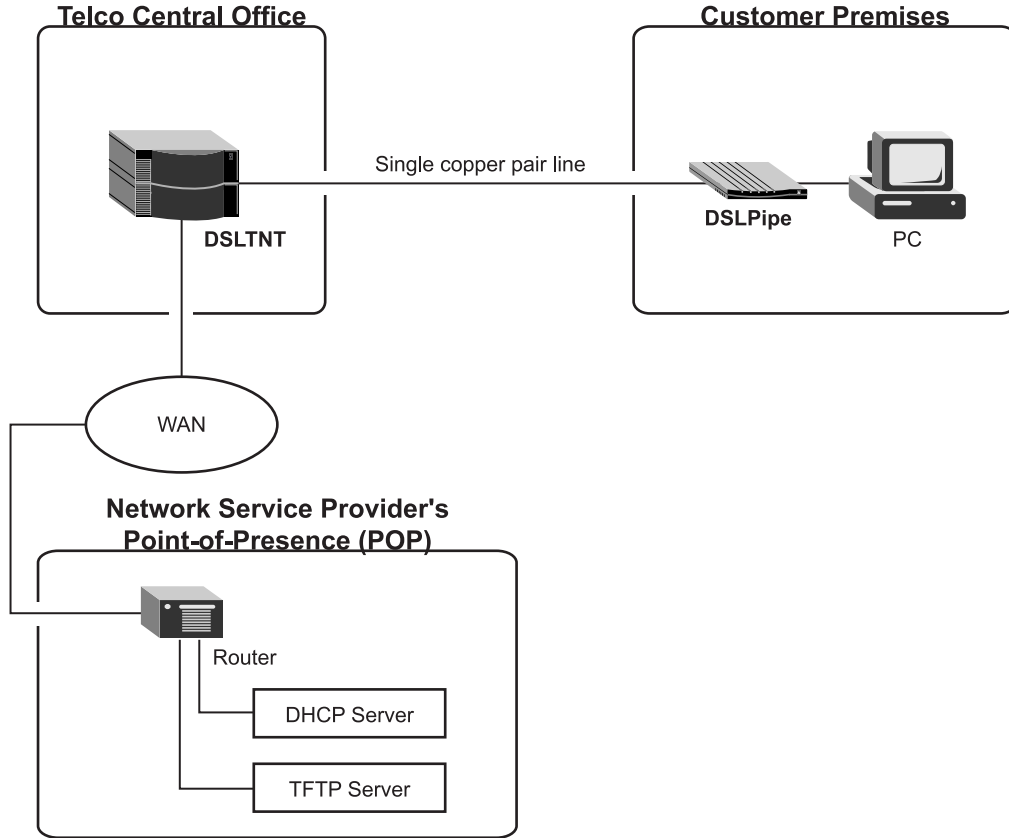

Figure 1 – System Components for “Plug & Play”
Figure 1 illustrates the relevant network system components involved in a typical service provider-to-customer link in which the Ascend "plug & play" capability is utilized. Two protocols that are a part of the TCP/IP stack are of particular importance in the procedure that allows the DSLPipe to acquire its configuration from the network service provider (NSP); they are Dynamic Host Configuration Protocol (DHCP) and Trivial File Transfer Protocol (TFTP). The factory-default configuration of the DSLPipe (table 2) supports a Frame Relay bridge connection, and hence the MAX TNT™ WAN access concentrator (the other side of the bridge) must be configured similarly.
In figure 1, generic terminology is used to identify the physical locations of equipment – namely, the Telco and NSP facilities. In reality, deregulation has brought about several new categories of provider and new roles for the traditional ones. The local exchange carriers (LECs) that once dealt only with line provisioning are now actively promoting their own Internet services, in competition with the original Internet service providers (ISPs). The incumbent LECs in turn are facing increasing competition from competitive local exchange carriers (CLECs) who are not only encroaching on their traditional circuit-switched voice business, but are also offering innovative new services such as voice-over-IP (VoIP), virtual private networks (VPNs), etc. And now, even the ISPs are joining in the fray with Internet telephony.
The 1996 Telecommunications Act compelled the incumbent LECs (the seven Regional Bell Operating Companies, and a few others) to open up their central office (CO) buildings to allow CLECs to colocate their own switching equipment at the POP of local loop circuits. One restriction of the Act, however, is that any networking equipment providing functionality higher than layer 2 (switching) may not be colocated in the COs. Regardless of whether the NSP is a LEC, CLEC or ISP, the router and servers shown in figure 1 must, for the moment, remain located elsewhere.